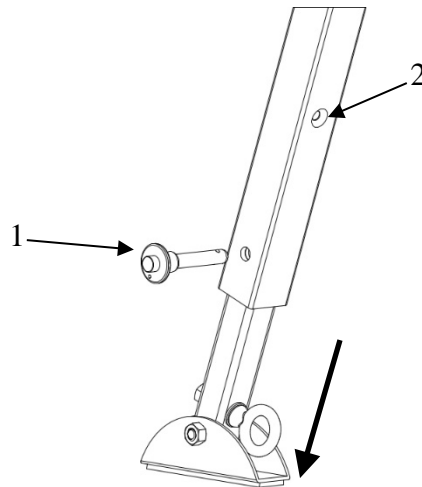

Figure 9
Figure 9 – Extending the Leg	9
7. Extend each leg one at a time (figure 9). To extend the leg depress the locking button on the quick release pin (1) and pull the pin out of the leg. Pull the inner section of the leg out until the detent pin locks in place (2). Depress the locking button on the quick release pin and insert into the hole, ensure that the pin extends all the way through and that the lock ball is visible.